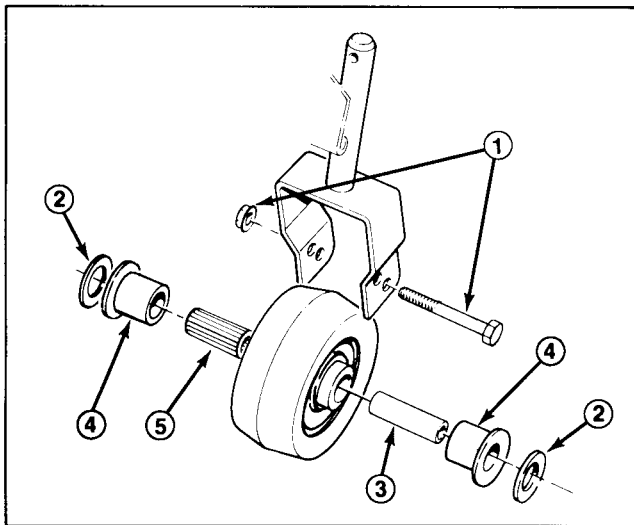

Figure 26
4. Insert pin punch into top or bottom of mounting tube and drive bushing out of tube (Fig. 26). Also drive other bushing out of tube. Clean inside of tubes to remove dirt.
1. Remove capscrew and locknut holding caster wheel and (2) washers between caster fork (Fig. 26).
2. Pull spanner bushing out of wheel hub (Fig. 26).
3. Remove bushing from wheel hub and allow bearing to fall out (Fig. 26). Remove bushing from opposite side of wheel hub.
7. Install caster wheel assembly and (2) washers between caster fork, and secure all parts in place with capscrew and locknut.